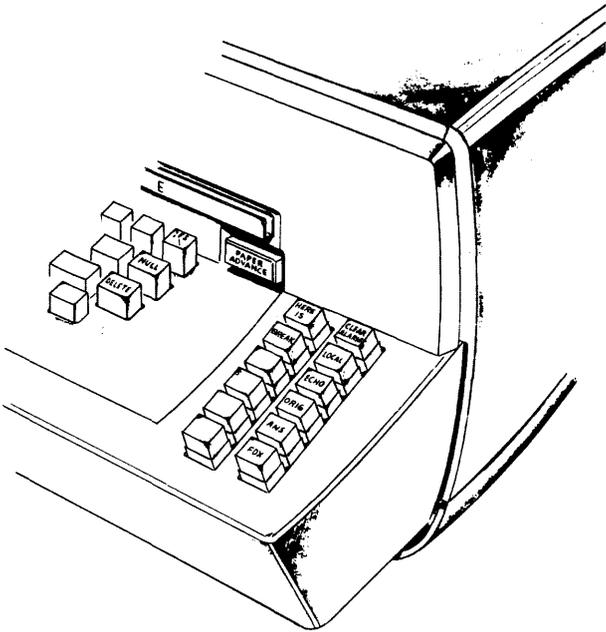

Figure 16 - Control Console for ESU With Modem
4.06 The electrical interface is compatible with private telephone lines or data access arrangement, Bell System 1000A, 1001B, 1001D, or similar units. This ESU has the capability to provide either manual or automatic answer; both arrangements provide manual originate. Controls for the ESU with modem are shown in Figures 16 and 17. Refer to Section 574-423-100TC for the description and principles of operation of the electrical service unit.